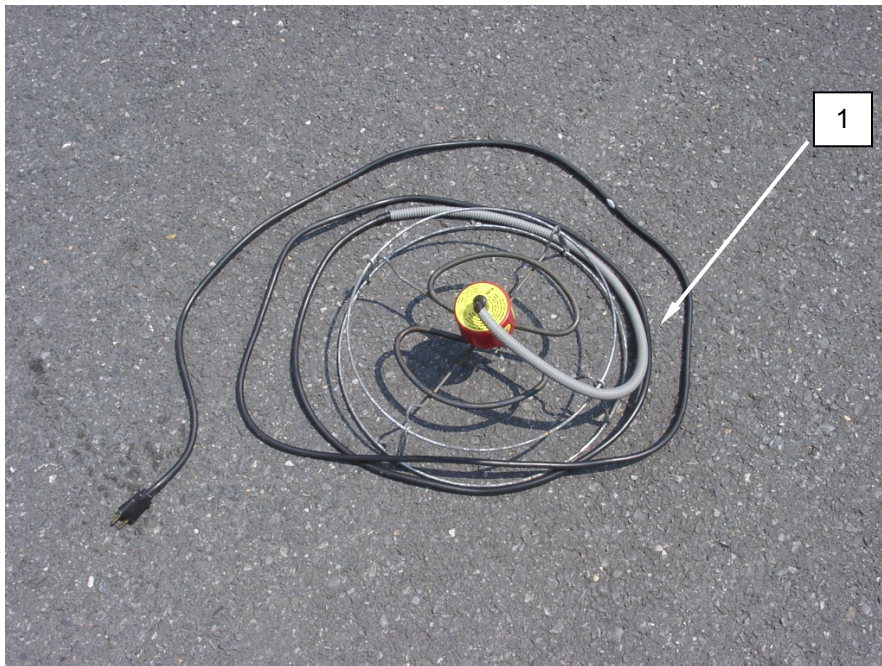

Figure 1. Tank Heater for 3000-Gallon Water Bag.
3. Place the tank heater (**Figure 1, Item 1**) in the center 3000-gallon water tanks and connect extension cords once the TEMPER is set up.